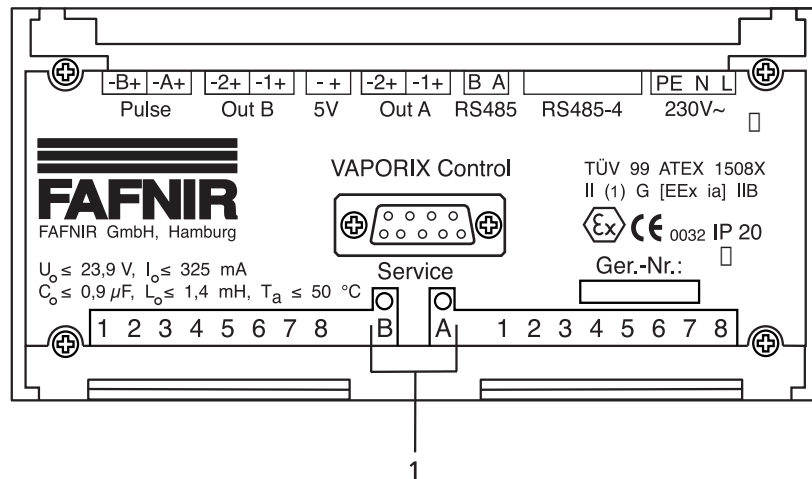

Fig. 6: Light-emitting diodes VAPORIX-Control
The assessment system of the VAPORIX-Control system compares the fuel flow with the vapour flow, and issues a status signal. The status of the vapour recovery and the monitoring system is indicated using a three colour light-emitting diode (1) per fueling point (A/B) (see Fig. 6).
The status of the vapour recovery and the monitoring system is indicated on the one hand using the three colours (green, orange, red) and on the other hand using different flashing of the light-emitting diodes (see Fig. 6).